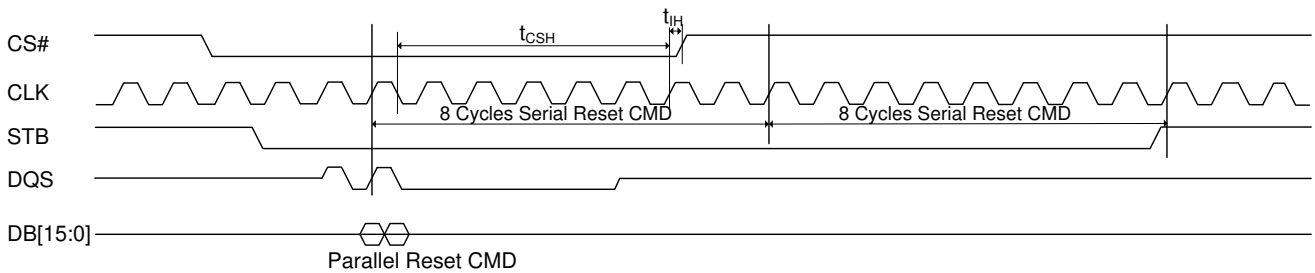

Figure 4-2. Power-Up Reset Entry
- PU Reset Entry includes one Parallel Reset and consecutive two Serial Reset commands as shown in Figure 4-2